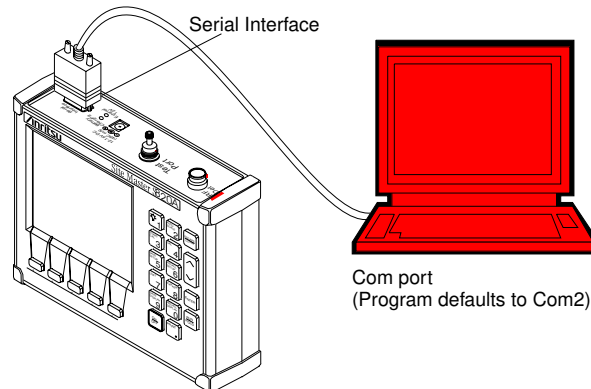

Figure 4-2. Equipment Setup for Site Master Tools Operation
- Step 1.** Connect the supplied cable as shown in Figure 4-2.